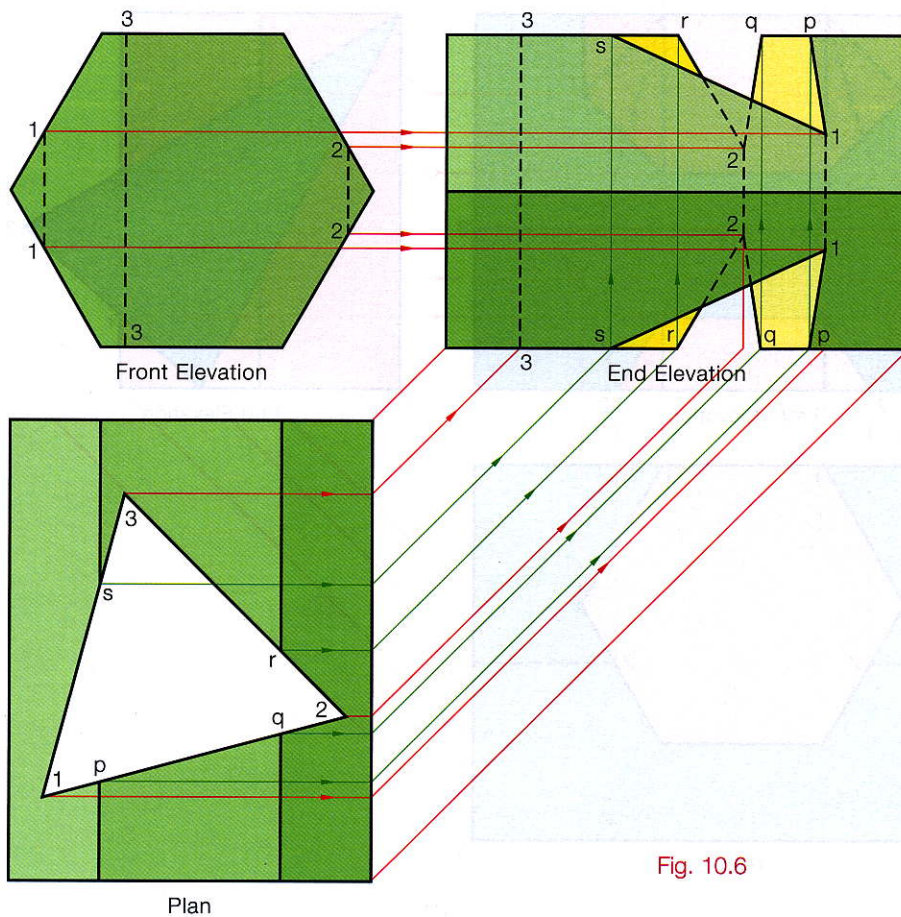

Fig. 10.6
- (1) Draw the plan and elevation as given. Both of these views are complete.
- (2) By projecting points from both of these views onto the end view we can build it up.
- (3) Note the bend points p, q, r and s where one of the cutting planes crosses two or more planes.
- (4) When all the points are found they are joined up in order. The order in which they are joined is best seen in the plan. $1 \rightarrow p \rightarrow q \rightarrow 2 \rightarrow r \rightarrow 3 \rightarrow s \rightarrow 1$, Fig. 10.6.